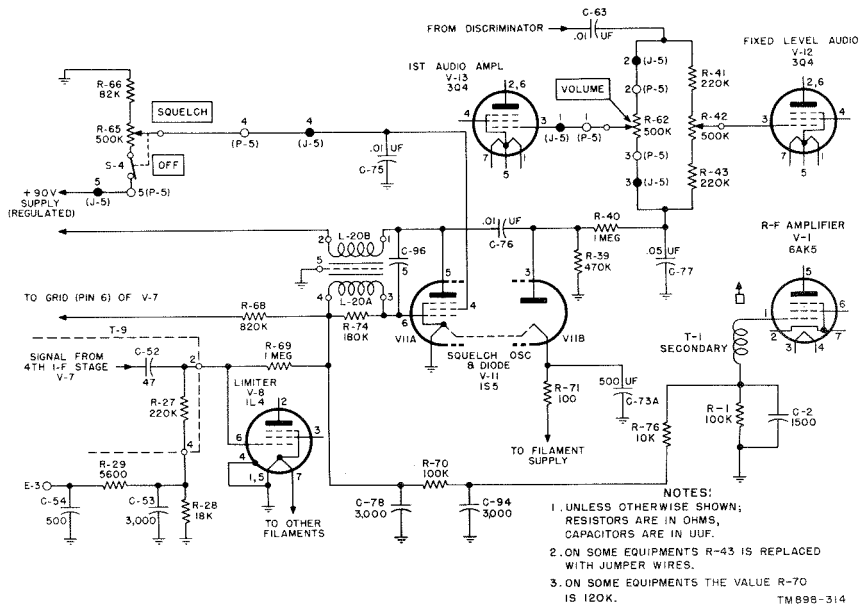
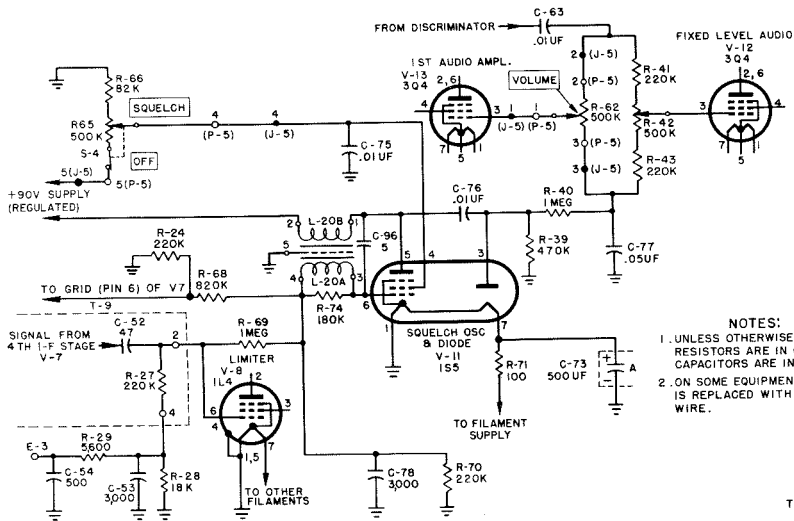

Figure 19. Radio Receiver K-108/GRC, squelch circuit.
Figure 20. Radio Receiver R-109/GRC, squelch circuit.
(figs. 19, 20, and 21)
b. In Radio Receiver R-108/GRC and R-109/GRC (figs. 19 and 20), the grid circuit of the oscillator extends through L20A and R74 to the junction of R68 and R69. The end of R68 connects to the grid of the fourth if. amplifier stage, V7, and through V7 grid resistor R24 to ground. The other end of R69 connects to the grid of limiter stage V8 and through V8 grid resistors R27 and R28 to ground. Because R24, in the grid circuit of V7, and resistors R27 and R28, in the grid circuit of V8, are also in the grid circuit of V11, any voltages developed across them are also applied to the grid of V11 and thus determine its operation.
(1) When no signal is present in the receiver, the noise voltages appearing at the input to V7 cause a relatively small grid current to flow through R24. Similarly, the noise voltages appearing at the input to V8 cause relatively small grid current to flow through R27 and R28. The resultant small dc voltage developed across R24, R27, and R28 applies little negative bias to the grid of V11. This bias is low enough to permit V11 to sustain oscillations. Ac components of this bias voltage are bypassed to ground through capacitor C78.
(2) When a signal enters the receiver, the grid current flow in V8 increases, and the voltage drop across R27 and R28 increases proportionately. Similarly, an increased signal at the grid of V7 causes an increase in the grid current flow through R24. When the resultant negative bias voltage applied to the grid of V11 becomes large enough to bias the oscillator to cutoff, the oscillations cease.
(3) In Radio Receiver R-108/GRC only, a portion of the rectified voltage appearing at the junction of R68 and R69 is applied, through R70 and R76, as an age voltage to the grid circuit of the first rf amplifier stage V1. Ac is bypassed to ground by C78 and C94. The arrangement functions as follows: The signal levels that appear at the grids of V7 and V8 are functions of the signal input level and the overall receiver gain. A large signal entering V1 causes the rectified grid currents to develop relatively large voltage drops across R24 and across the series arrangement of R27 and R28. The resultant voltage appearing at the junction of R68 and R69 is applied as negative bias to the grid of V1, and thus reduces the gain of V1. Conversely, a low-level signal entering the receiver produces a relatively small negative bias voltage at the junction of R68 and R69; consequently, a relatively small negative bias voltage is applied to the grid of V1. The result is that the gain of V1 is not measurably affected at low signal levels.
(4) In Radio Receiver R-109/GRC only (fig. 20), R70 is connected from the junction of R68 and R69 to ground and is therefore in the grid circuit of V11. No age bias is applied to the grid of V1.